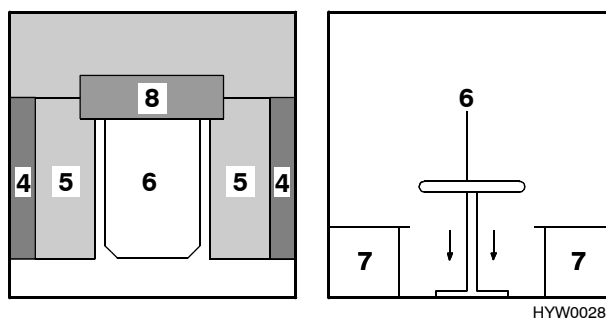

Fig. 89 During conversion
- Let down the table-top (Fig. 89,6) until it is at the same height as the bedding boxes.
- Depending on the model, lay a board (Fig. 89,8) on it as a cushion support.